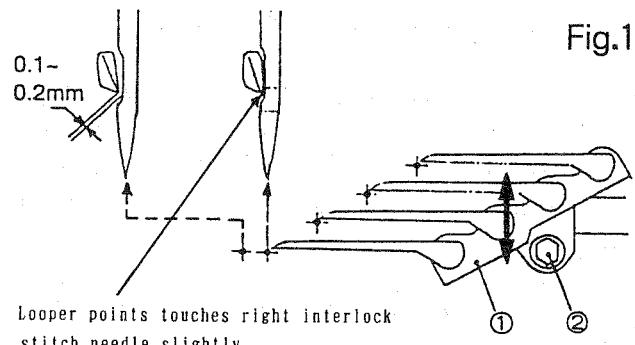

Fig.15
(4) To adjust the looper front to back (Fig.15)